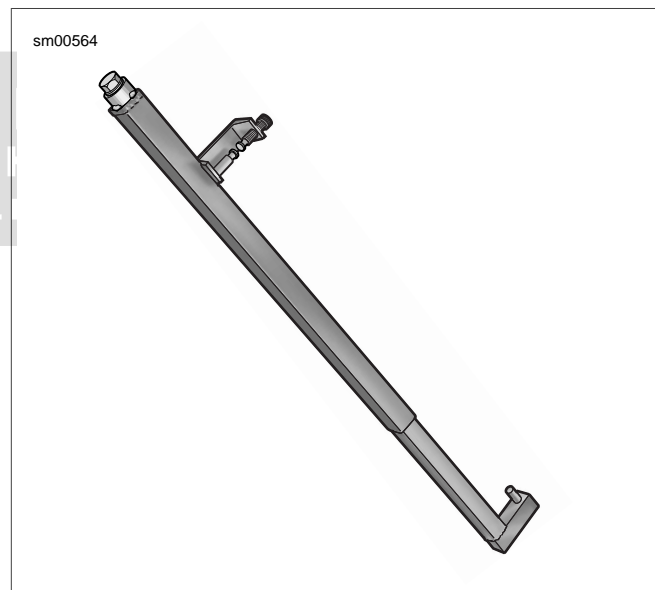

Figure 2-92. Front Fork Compressor
- See Figure 2-92. Install the fork assembly in the FRONT FORK COMPRESSOR (Part No. HD-45966).